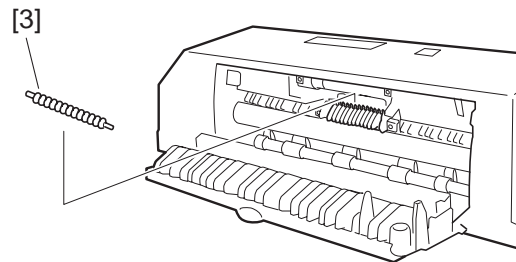

Figure 3-302
- 2) Shift the harness guide. (See Figure 3-302.)